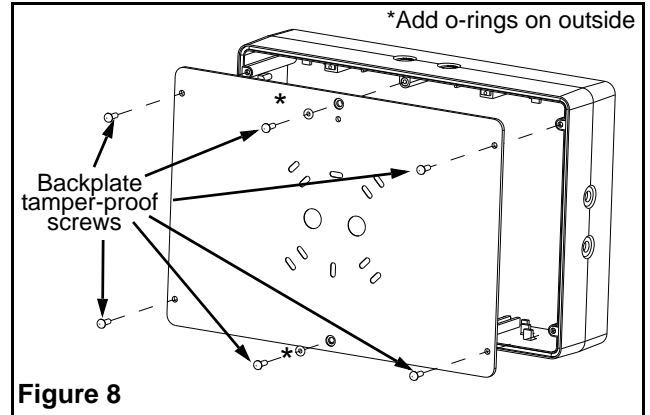

Figure 8
2. Remove backplate by unscrewing the six tamper-proof screws holding the backplate to the frame (see Figure 8)